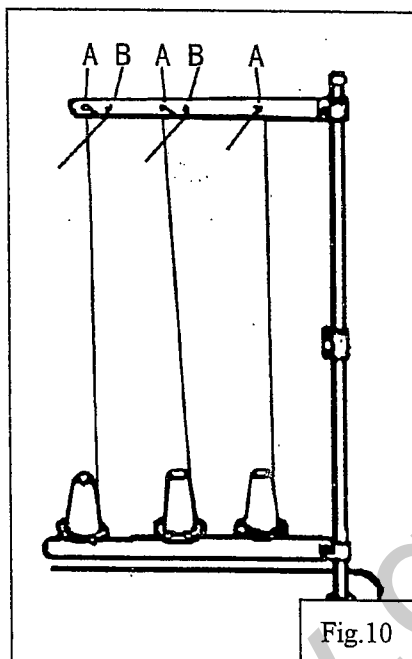
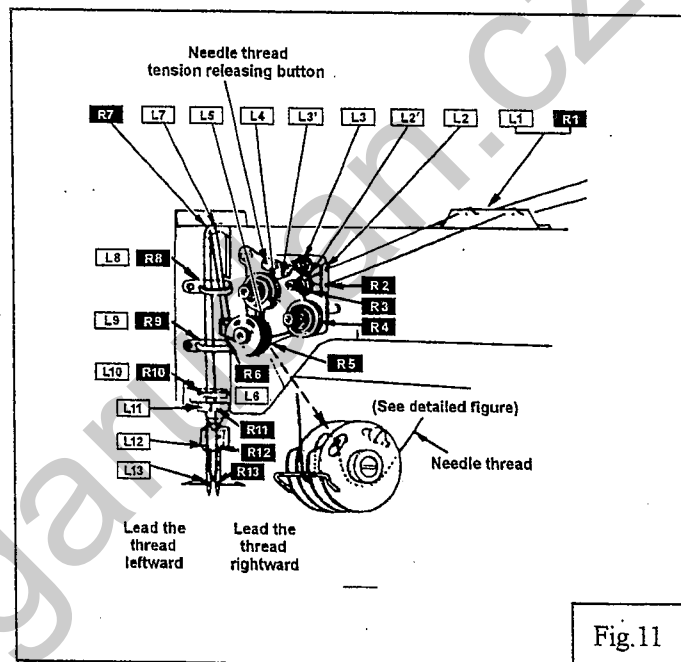

Fig.10
Fig.11
#### 4) How to route the upper thread (Fig.10, Fig.11):
**Note:** when thin slippery thread (polyester thread for example) is used pass the thread through thread guide B as show in Fig.10
B With the take-up lever located at the upper most position, pass each thread in the order in Fig. 11.